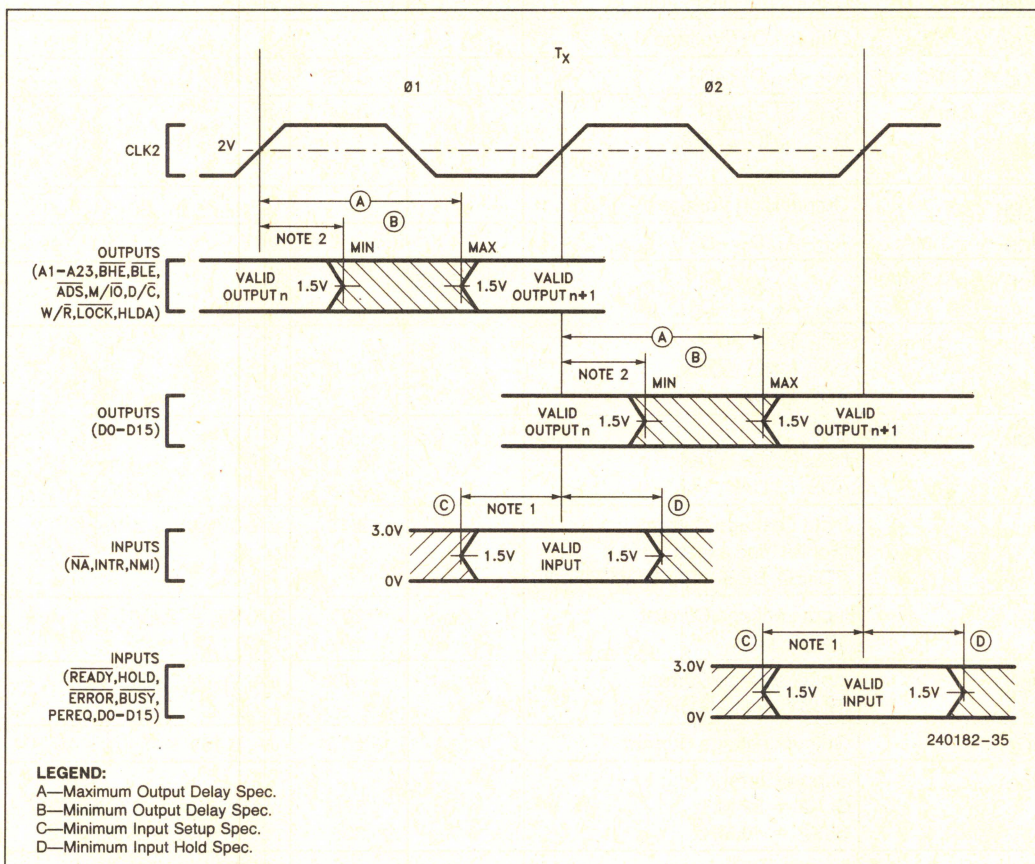

Figure 6.1. Drive Levels and Measurement Points for A.C. Specifications
A.C. specification measurement is defined by Figure 6.1. Inputs must be driven to the voltage levels indicated by Figure 6.1 when A.C. specifications are measured. 80376 output delays are specified with minimum and maximum limits measured as shown. The minimum 80376 delay times are hold times provided to external circuitry. 80376 input setup and hold times are specified as minimums, defining the